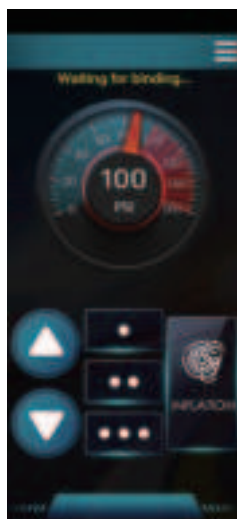
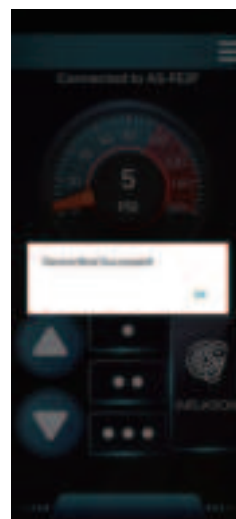

Fig. III.4.2
Fig. III.4.3
3) Check the current device pairing and connection status through the indicator above the dashboard on the main interface. When "Waiting for binding..." is displayed. "Indicates that the APP is being paired with the device, and the main interface cannot respond to pressure operation, as shown in Fig.III.4.2. When pairing is successful, a pop-up prompt will appear, and "Connected to AS-XXXX" will be displayed to indicate the name of the currently connected device, AS shown in Fig.III.4.3.